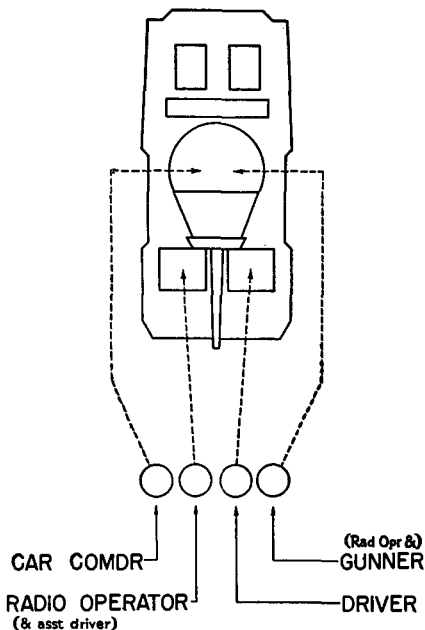

FIGURE 3.—Method of mounting.
(2) The movement may be executed by ordering any member of the crew except the gunner to fall out.
(3) The movement should be executed with snap and precision at double time.
■ 8. To MOUNT CREW.—*a.* The crew, being at dismounted posts or dismounted, is mounted at the command or signal MOUNT. At the command or signal, crew members mount as prescribed in paragraph 1 of the appendix. (See also figs. 3 and 4.) During early stages of training, mounting should be done “by the numbers.”